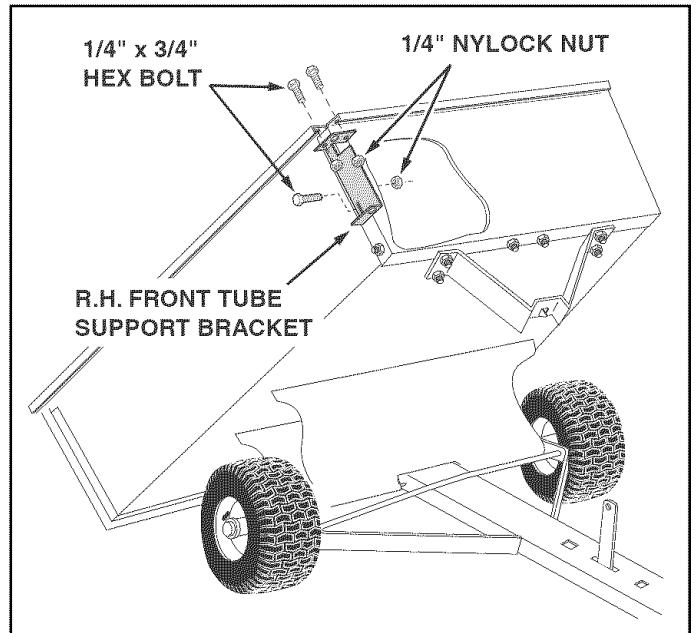

FIGURE 10
- Place the R.H. Front Tube Support Bracket under the top flanges of the cart, as shown in figure 10. Fasten the bracket to the cart using three 1/4" x 3/4" hex bolts and 1/4" nylock nuts. **Do not tighten yet.**